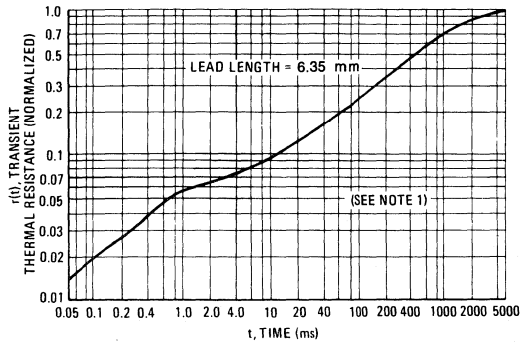

FIGURE 12 - THERMAL RESPONSE
- $r(t)$ = normalized value of transient thermal resistance at time, t , from Figure 12, i.e.: